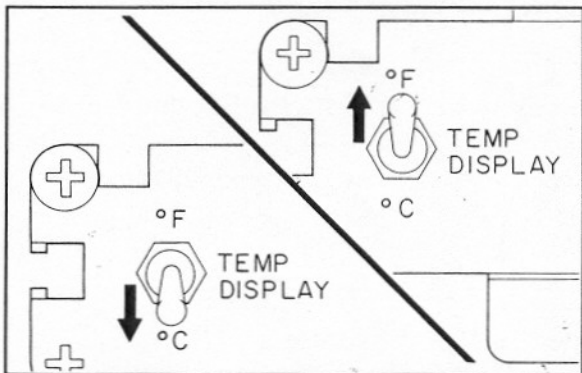

FIGURE 5. °C/°F SWITCH SETTING
5. Position °C/°F Switch (located on rear of unit) to desired readout, refer to Figure 5. (NOTE: If °C is selected, the °C Light will illuminate on the front panel).